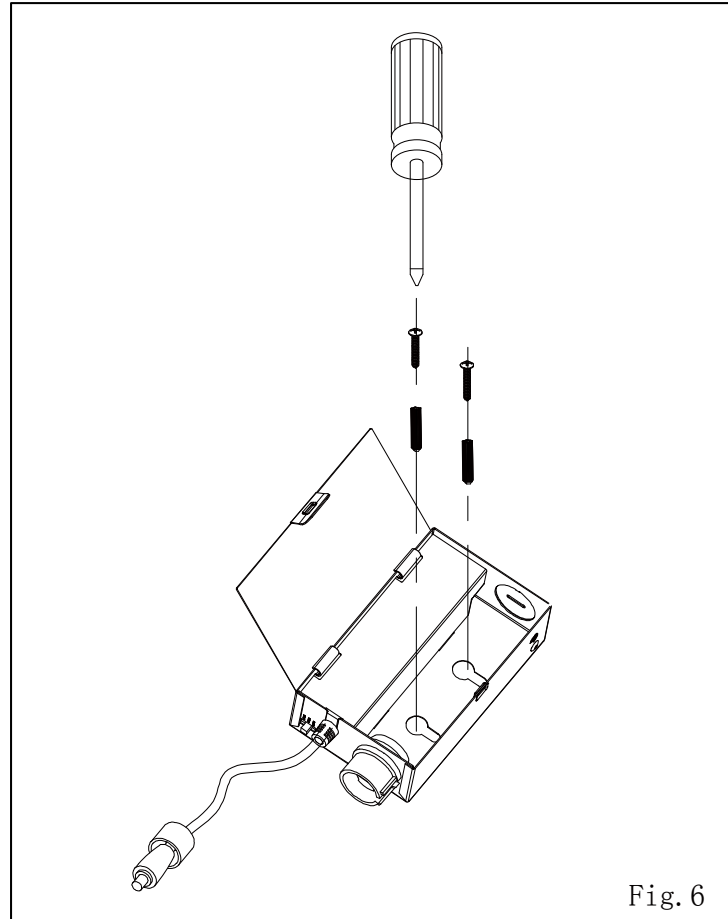

Fig. 6
7. Push junction box into the ceiling opening and fix with screw. Close the cover of the connection box. (Fig.6)